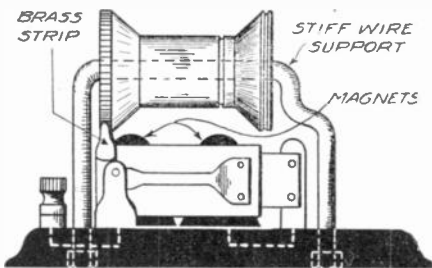

FIG. 2
The spool is used as the rotor and is supported directly above the vibrating armature of the buzzer with a thick stiff wire bent into a "U" shape and fastened in an inverted position on the wood base. This is plainly shown in Figure 2.
They are then placed directly under each other at a distance a little less than the length of the carbon stick. The rest of Fig. 2 is self-explanatory. Fig. 3 shows
which must not be enameled. On this rod where the center of the diaphragm will come, drill and tap a hole for the platinum contact (E), Fig. 1 and 2. The supporting pivots for the arm are made as shown from the 1/4 inch brass rod (B) Fig. 2 and 3. Running across the top of the box, to form a cross-arm in front of the top of the phone and in front of the upright arm, mount a 3/8 inch square brass strut (C), fastened on each side by a screw. Opposite to where the upright arm will pass, drill and tap a hole for the threaded brass rod (D), and in front of the box, opposite, drill another hole for the rod to pass through, on the end of which rod will be mounted a hard rubber handle. In the illustration is shown an adjustable spring attached to the upright arm controlled from the front of the box (F).
a cross-section of the leg in question. A piece of wood is then cut out into the form shown in Fig. 2, as a loosely fitting plug. The length of it is slightly less than the depth of the hole. A round brass plate (Fig. 5) the exact diameter of the wooden plug is then screwed to the top of the piece of wood. Around the part below the plate a spring is then placed. At the top of the hole two brass strips, the shape of which is shown in Fig. 4, are screwed and then wired. Screws are placed at the points indicated on the drawing. (A) are the screws to hold the spring and (B) are the screws to keep the whole device from falling out.